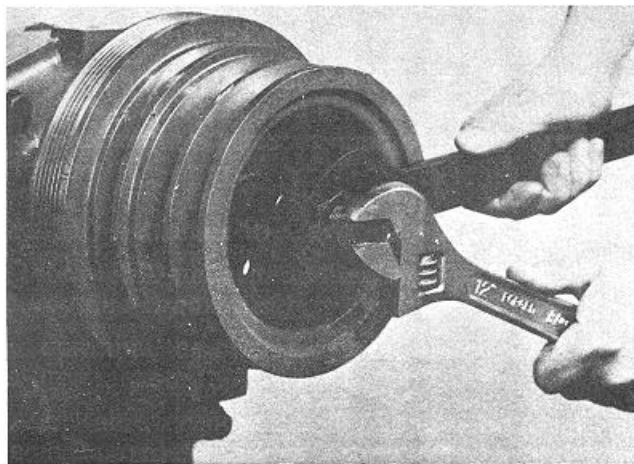

Fig. 14-46 (N114270). Install The Accessory Drive.
4. Install the Part No. 3376326 Pulley Assembly Tool to the drive shaft. Use the 3376326 to install the pulley onto the shaft, Fig. 14-46.